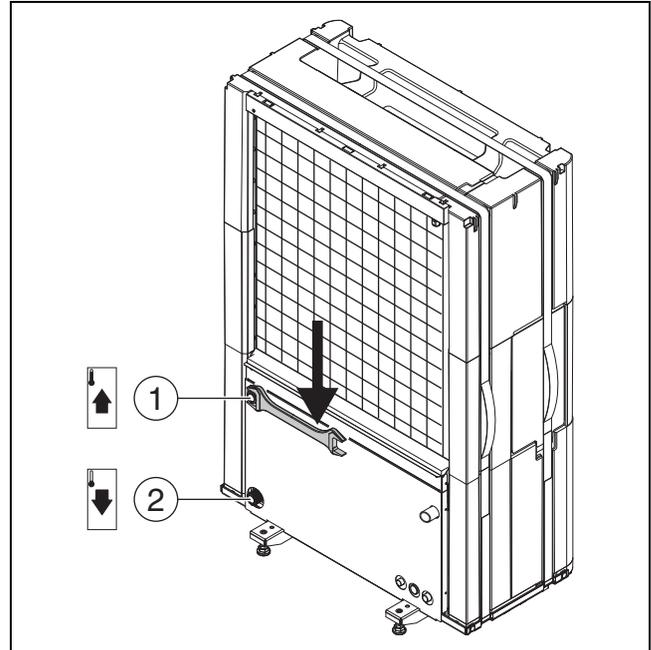

Fig. 18 Connections of heat carrying medium pipes, valid for all sizes
- ▶ Connect flow to the indoor unit at the heat transfer medium outlet of the heat pump (→ [1], Fig. 18).
- ▶ Connect return from the indoor unit at the heat transfer medium inlet of the heat pump (→ [2], Fig. 18).
- ▶ Tighten connections of the heat transfer medium pipes with a starting torque of 120 Nm. Direct the force downwards (→ Fig. 18) to avoid lateral loading of the condenser. If the connection does not seal properly, the joint can be tightened with a starting torque of up to 150 Nm. If the connection is still not tight, this indicates that the gasket or connected pipe is damaged.